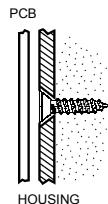

Figure B.4:
9. Mount the back cover using two screws and replace the PCB. Use ISO 7050 (ST3.5 x 22) or similar countersunk screws so that the screw head will not touch the PCB – see *Figure B.4*.
10. Mount the back cover to the wall using two screws and replace the PCB. Use ISO 7050 (ST3.5 x 22) or similar countersunk screws so that the screw head will not touch the PCB – see *Figure B.4*.